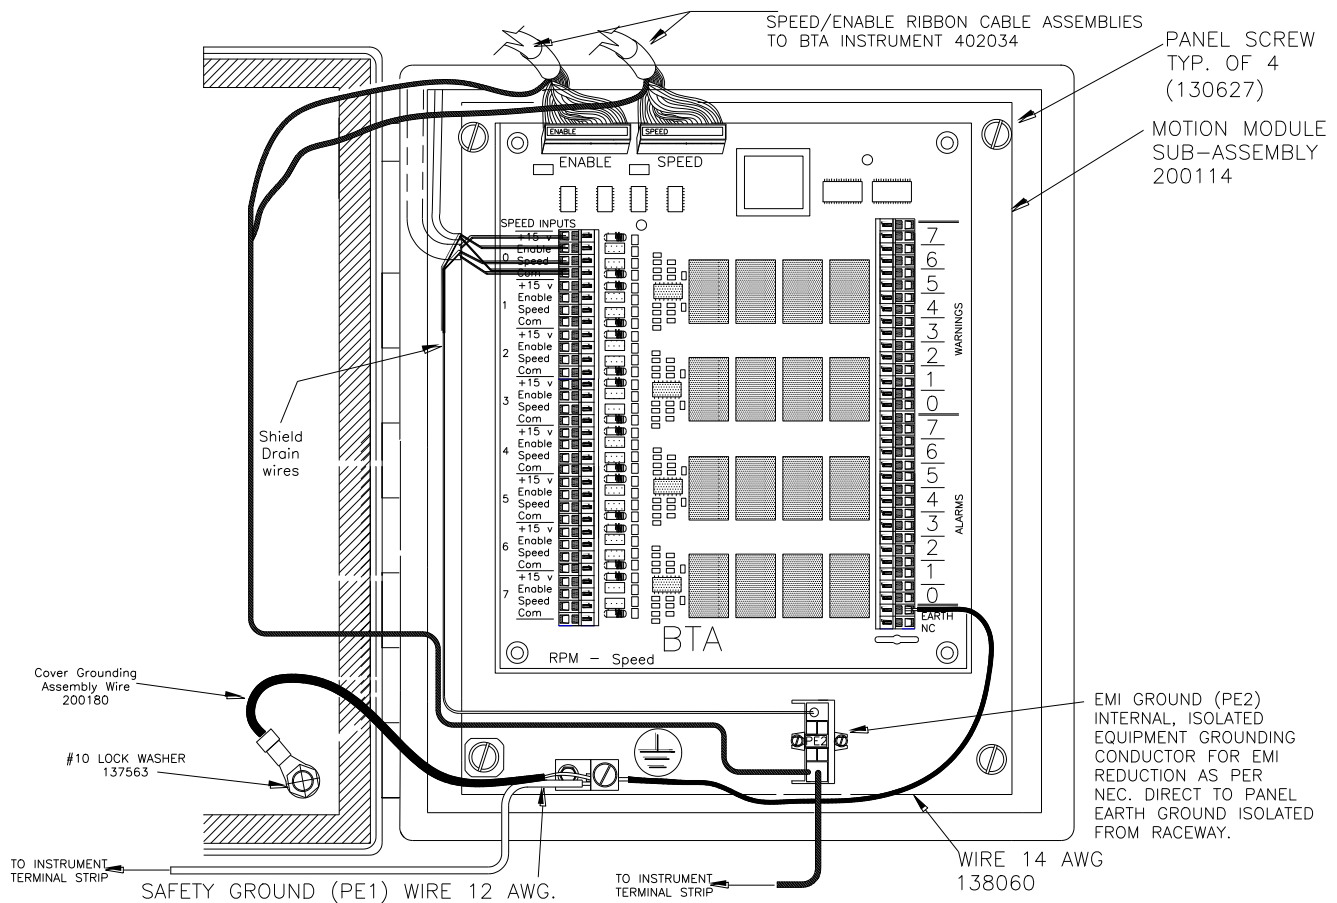

Figure 28. Motion Module Grounding Connections
7.3.4. WARNING & ALARM RELAY CONTACTS Terminals for access to these contacts are located on the right side of the board. See figure 28. Only the normally-open set are available for switching externally applied power. Normally-Open Output Relays energize for normal use providing fail-safe operation. They are designed to cause shutdown if interlocked both from slowdown or damage to wiring. Refer to section 7.1 Features. A qualified electrician should do electrical hook ups on the Warnings and Alarms side of the board, where AC line voltage may be used.
7.4.1.1. GROUNDING Figure 28 shows that in addition to the standard circuit safety ground (PE1), an additional EMI ground (PE2) has been provided for. This is allowed for under the NEC for electronic equipment.